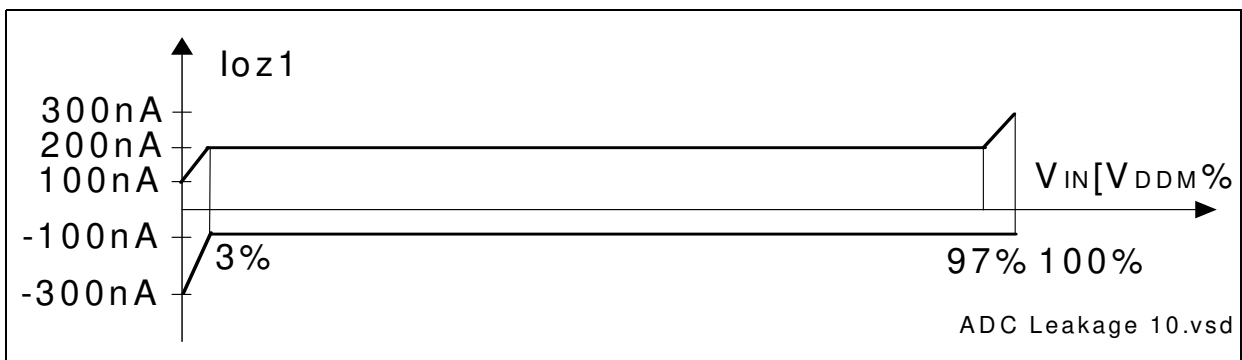

Figure 19 ADC0/ADC1 Analog Inputs Leakage
- 11) The leakage current definition is a continuous function, as shown in Figure 19. The numerical values defined determine the characteristic points of the given continuous linear approximation - they do not define step function.